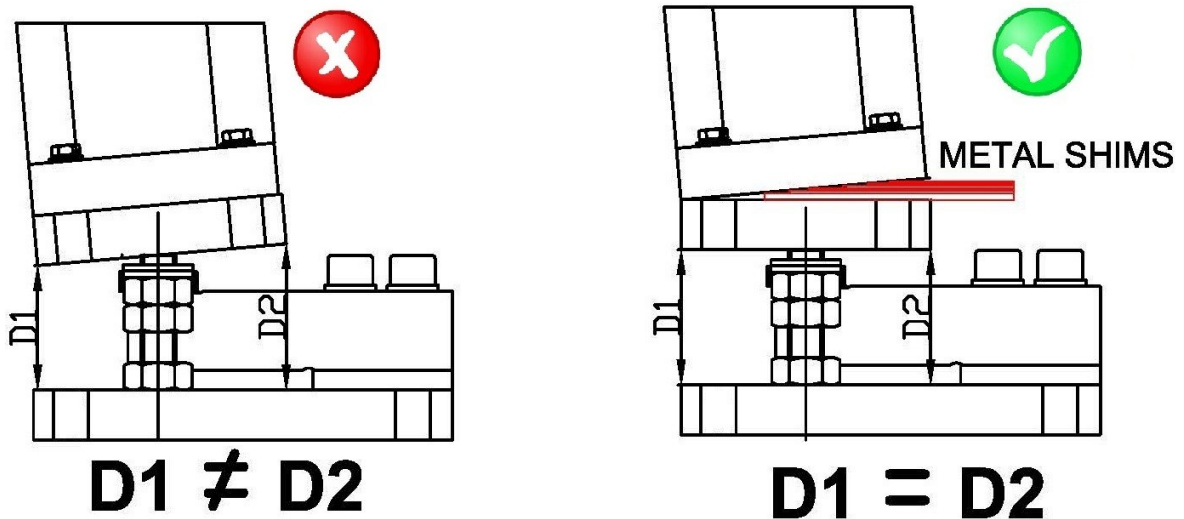

Figure 12
11. IF THERE IS A DEVIATION BETWEEN D1, D2 AND D3, THEN WE SHOULD PLACE METAL SHIMS OF DIFFERENT WIDTH (1,2 or 3mm) BETWEEN THE LEG OF THE SILO/TANK AND THE UPPER PLATE TO GET THE NECESSARY PARALLELISM FOR A CORRECT INSTALLATION (Figure 12)